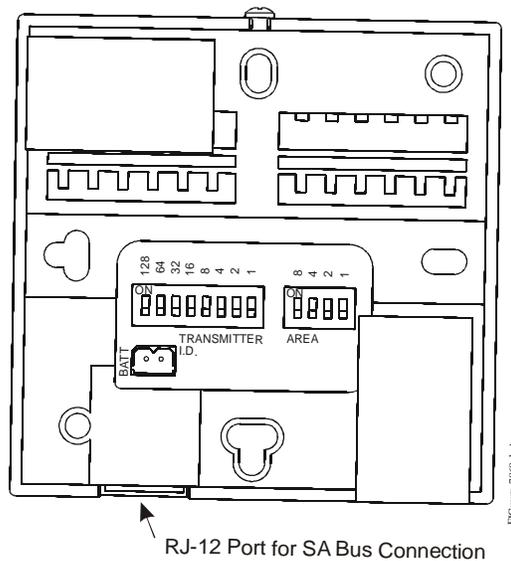

Figure 4: TRANSMITTER ID and AREA DIP Switch Blocks on a WRZ-7860-0 Receiver
The WRZ-7860-0 Receiver has a 6-pin RJ-12 port for the SA Bus interface with a controller, two LEDs that indicate RF signal and SA Bus status, and two DIP switch blocks for setting the **TRANSMITTER ID** address and **AREA** address (Figure 4). The RF signal LED also goes from green to red if any of the associated sensors has reported that its battery voltage level is low. The receiver obtains nominal 15 VDC power from the SA Bus.
2. Set the numbered switches on the **TRANSMITTER ID** address DIP switch block and the **AREA** address DIP switch block to the desired RF address (Figure 4).
Connect an SA Bus interface cable between the SA Bus port on the VMA16 or FEC and the SA Bus port on the WRZ-7860-0 Receiver (Figure 4). Various length pre-made SA Bus cables are available (for example, CBL-NETWORK6-0).
2. Use the battery pack of the WRZ-SST-120 Wireless Sensing System Tool to provide power to the WRZ-7860-0 (two-pin connector on the back of the WRZ-7860-0, just below the **TRANSMITTER ID** DIP switch block). See Figure 4.